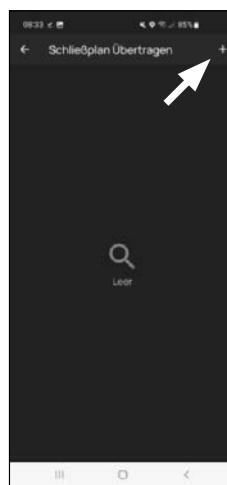

Fig. 1
- ① Tap the menu item "V - Transfer locking plan" in the "My System" menu.
- ② Tap the "+" in the top right-hand corner (Fig. 1).
- ③ Select the cylinder for which you want to transfer information (I) (Fig. 2) and then tap on "Prog. File" at the top right (II) (Fig. 1).